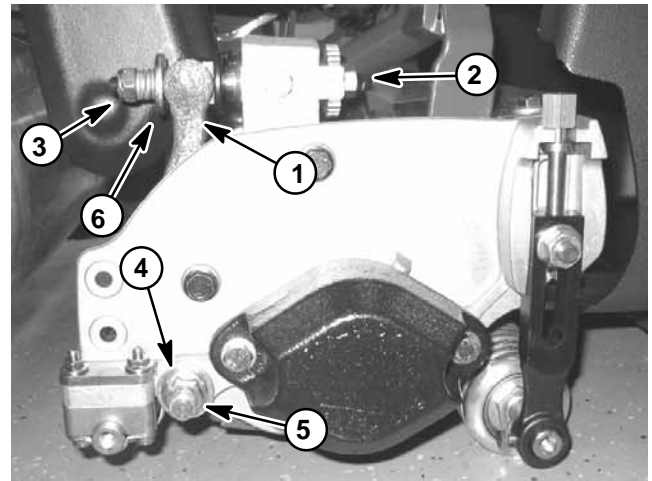

Figure 15
2. On both sides of cutting unit, loosen bedbar adjuster screw by turning screw counterclockwise (Fig. 15).
3. Back off the spring tension lock nut until the washer is no longer tensioned against the bedbar (Fig. 15).
4. Loosen flange nuts securing the bedbar pivot bolts on both sides of the cutting unit. Remove both pivot bolts with flange nut, nylon washer and metal washer (Figs. 15 and 16). Locate and retrieve second nylon and metal washers from between bedbar and cutting unit side plate.
2. Install bedbar from bottom of cutting unit frame making sure that bedbar mounting ears are positioned between washer and bedbar adjuster screw (Fig. 15).
8. Tighten spring tension lock nut to fully compress spring and then back off lock nut 1/2 turn (Fig. 15).